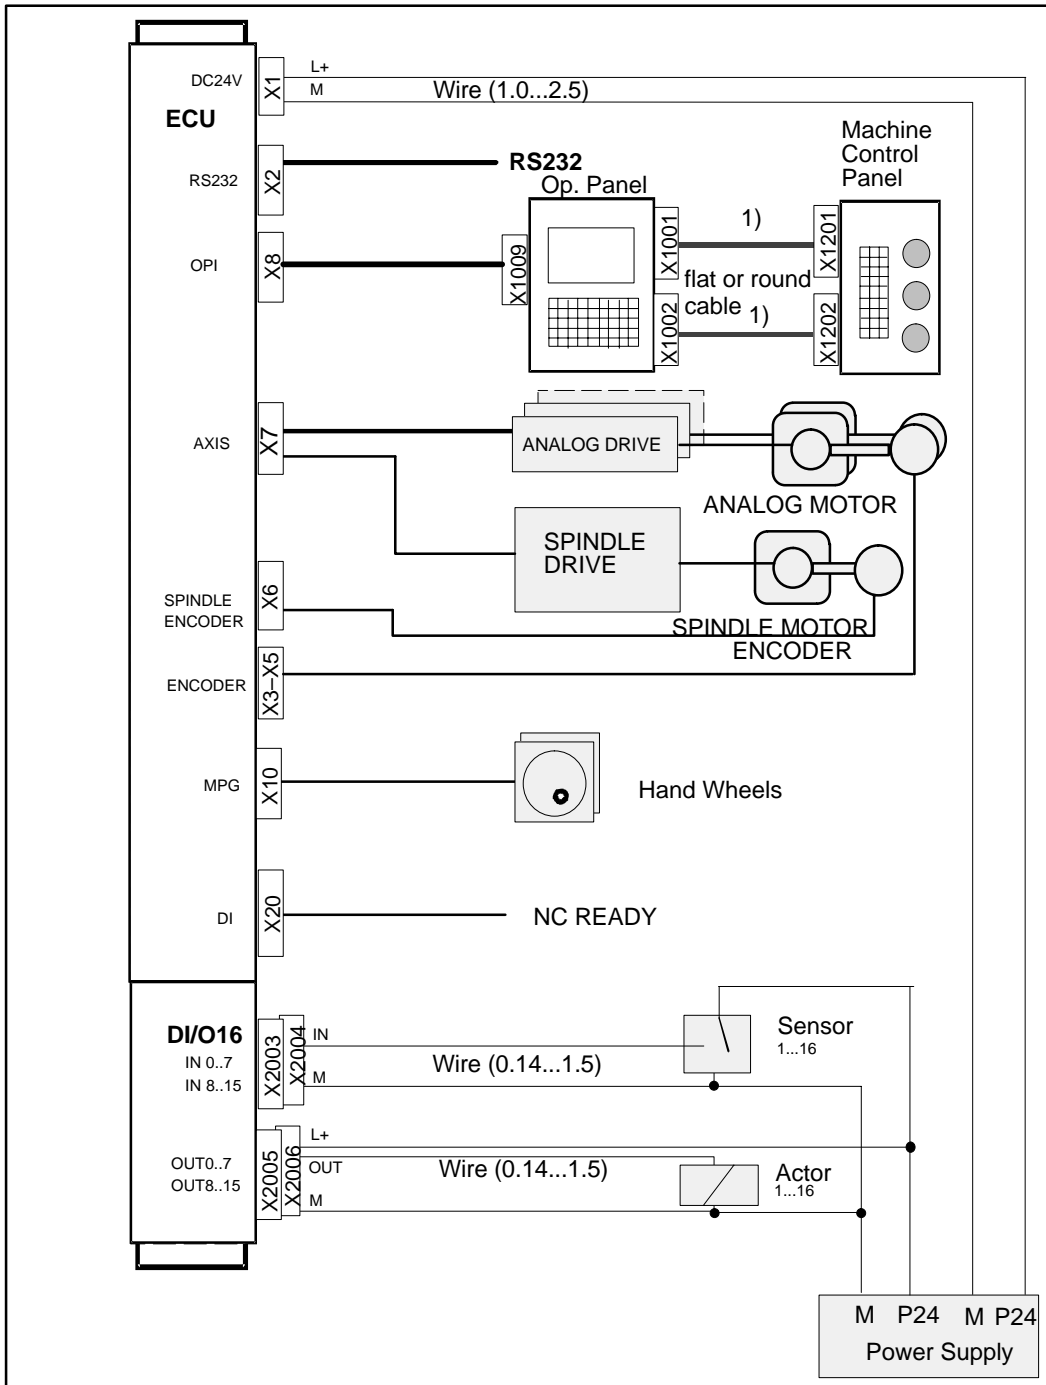

Fig. 2-4 SINUMERIK 802C connection diagram
1. Connect the cables to the components as shown in Fig. 2-4.